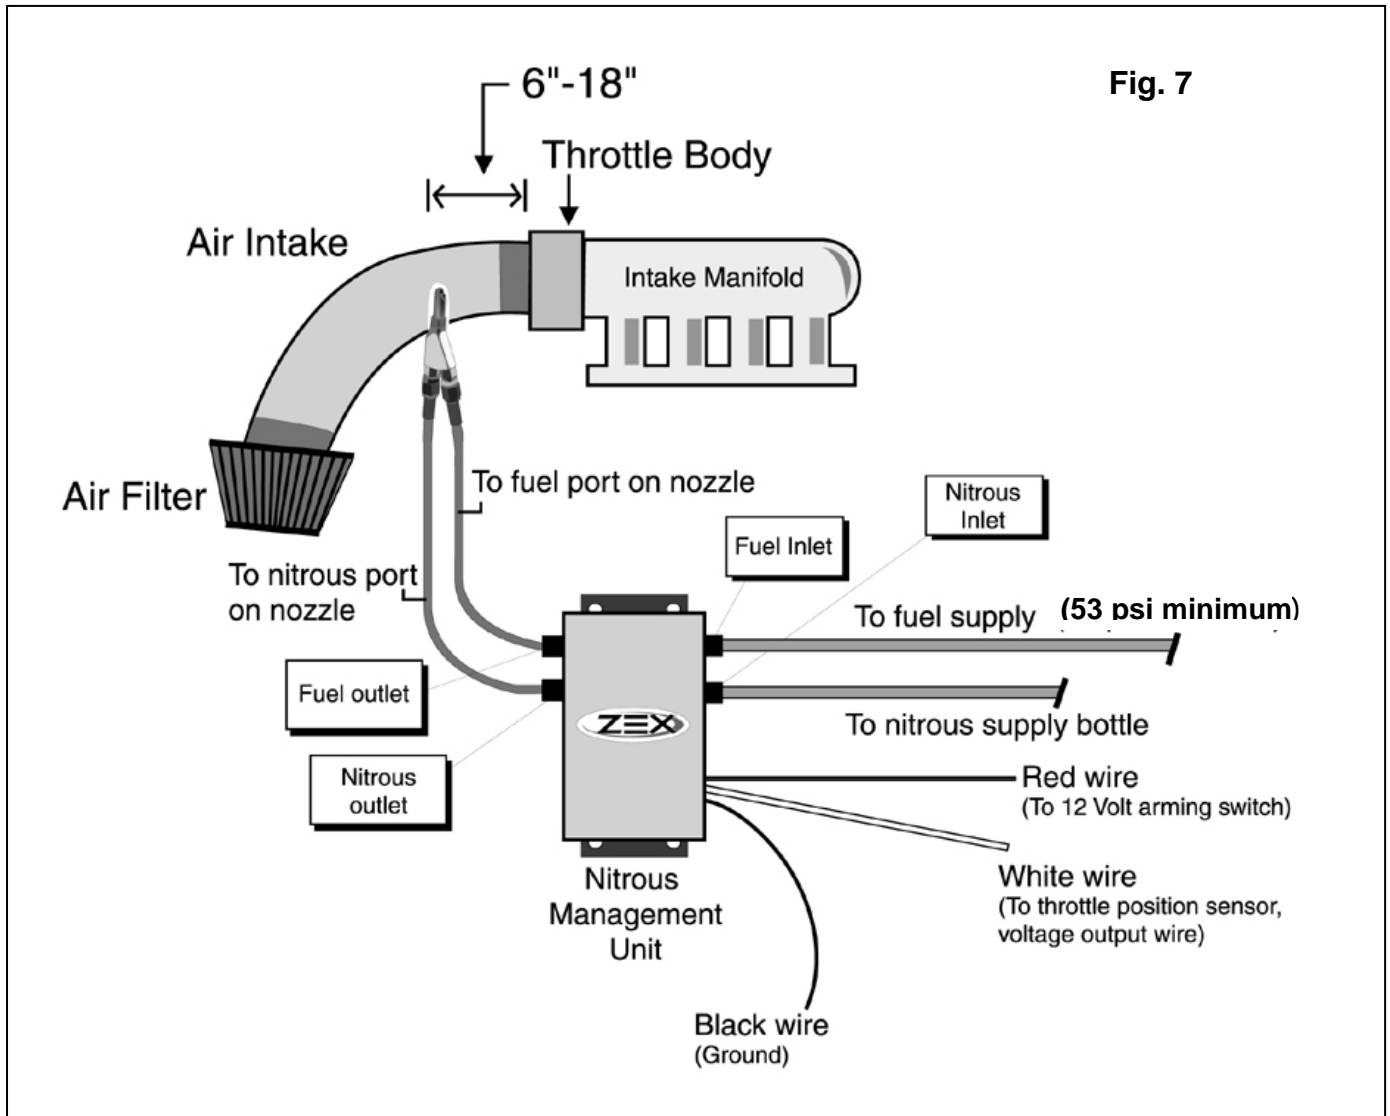

Fig. 7
5. **Install Nitrous Nozzle** - Optimum nozzle placement is 6" to 18" from the throttle body, refer to Fig. 7 for the ideal nozzle location. This range of distance gives the nitrous, fuel, and air, the proper time to mix before it enters the intake manifold plenum. After you have determined where to mount the nitrous nozzle (Fig. 6) in the intake, make sure this location won't interfere with other components. After you've found the spot, mark it and remove the air inlet
Connect one end of the TPS Resistor Wire to the vehicle's TPS voltage output wire. The correct TPS wire should have around .5 volts when the throttle blade is closed and around 4.5 volts when the throttle is opened fully. These are not exact voltage numbers, but simply give you an idea of the proper voltage you should be seeing. Connect the other end of the TPS resistor wire to the white wire from the Nitrous Management Unit. After these connections are completed, you need to install the arming switch/wire harness assembly. Find a suitable place in the interior of the vehicle for the arming switch and drill a 1/2 inch (.500) hole. Mount the switch and switch cover through this hole. Take the lead that the fuse assembly is attached to and find a suitable 12 volt accessory source of power under the dash. Use the T-tap electrical connector to splice into the 12 volt accessory wire and plug in the wire harness lead. Take the other lead from the arming switch and connect it to the red wire from the Nitrous Management Unit. As a reference for wire locations, use Fig. 7.